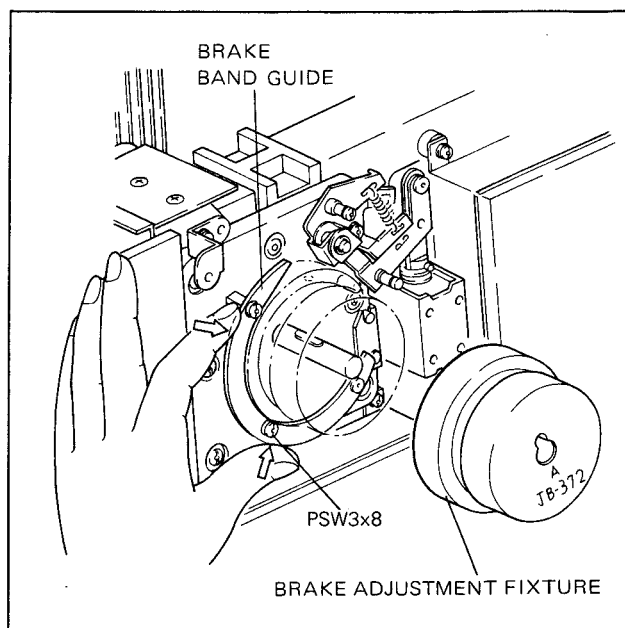

Fig. 3-18. Brake Band Guide Position Adjustment
15. Turn the side marked "A, JB-372" of the brake adjustment fixture in front and place it onto the reel motor shaft (see Fig. 3-18).